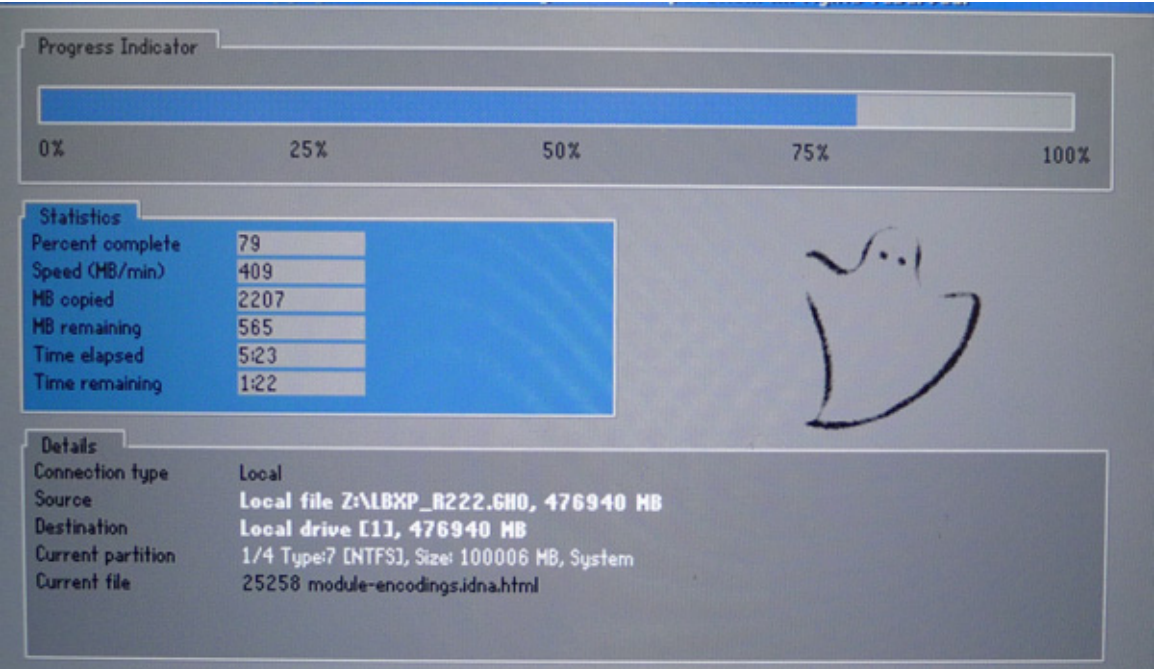

Figure 3-34 Upgrading progress status
- 11.)The system DVD is being loaded as shown in Figure 3-34 on page 3-36 . The Progress Indicator displays the loading progress status.
- 12.) When the system DVD loading as shown in Figure 3-34 on page 3-36 is completed, the system upgrade process is completed successfully. Follow the instruction as shown in Figure 3-35 on page 3-37